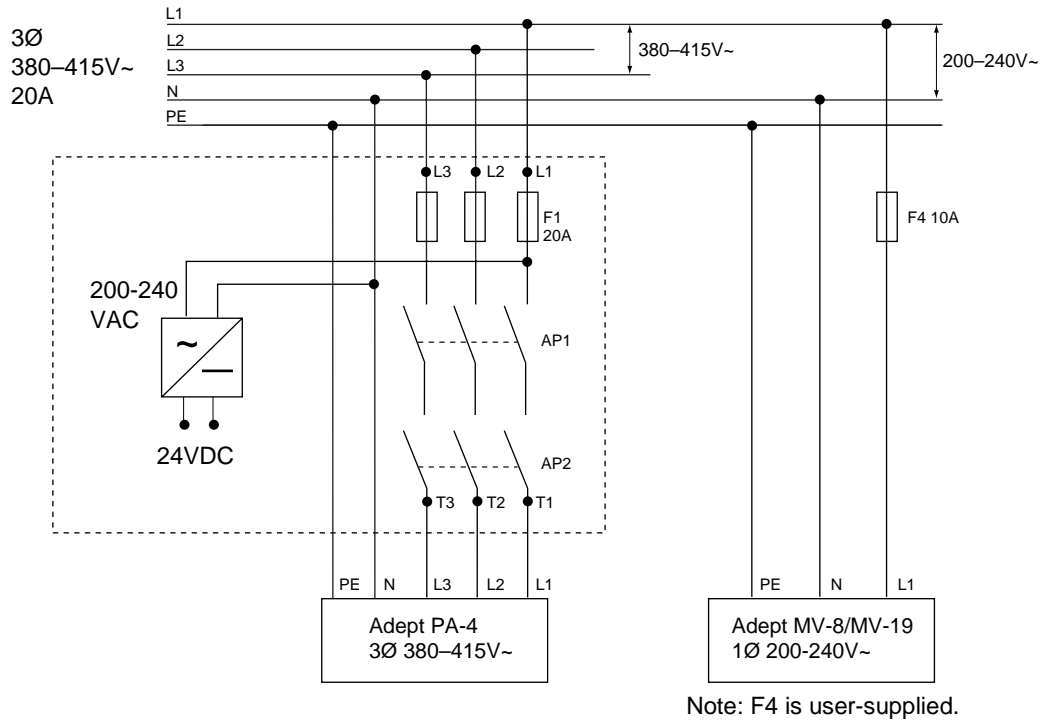
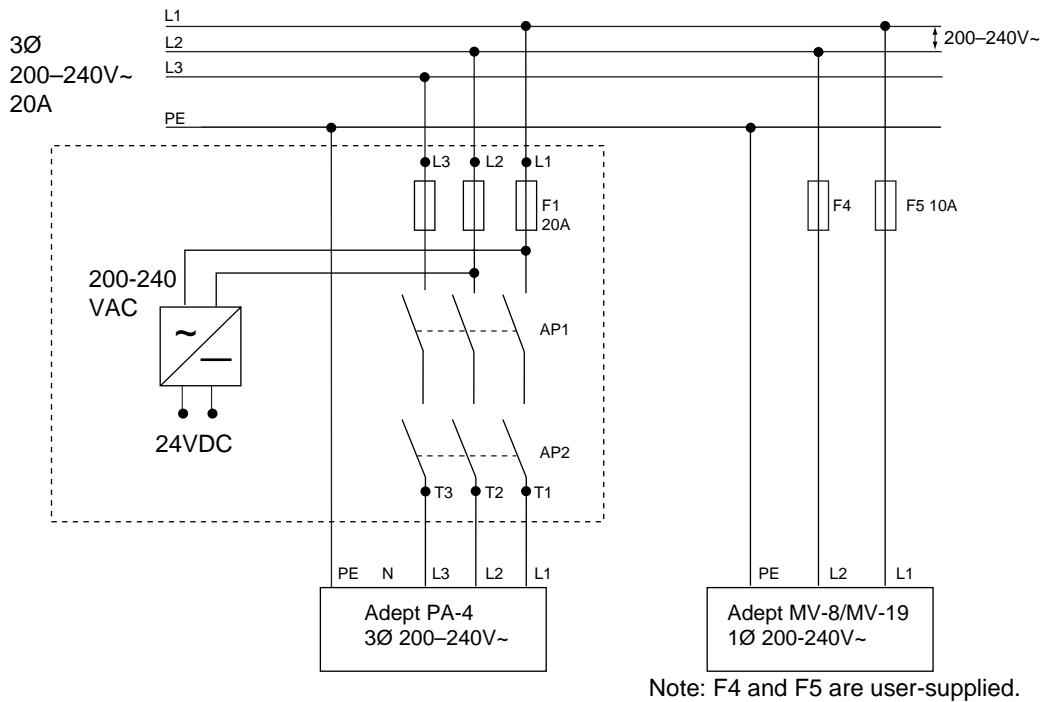

Figure 2-26. Typical 380-415 V AC Connection for Category 3 System
Figure 2-27. Typical 3-Phase 200-240 V AC Connection for Category 3 System
AC power must be connected separately to the Adept MV controller and the Adept PA-4 power chassis, but the power should come from the same source. See Figure 2-26 and Figure 2-27. (The AC power to the power chassis is routed via the contactors on the security panel.)
6. Re-install the power chassis power cord at the Security Panel according to the 200-240 VAC section in Table 2-8. See also Figure 2-27.